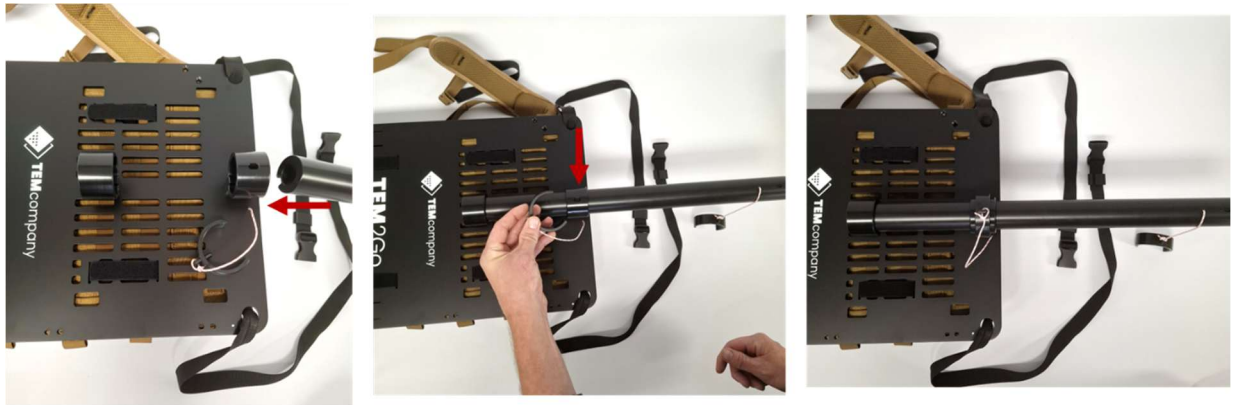

Figure 11: How to secure the receiver pole to the receiver backpack
3. Insert the receiver pole into the designated bracket, using the track as guidance. Once in place, secure it with the clip provided on the backpack (Figure 11).